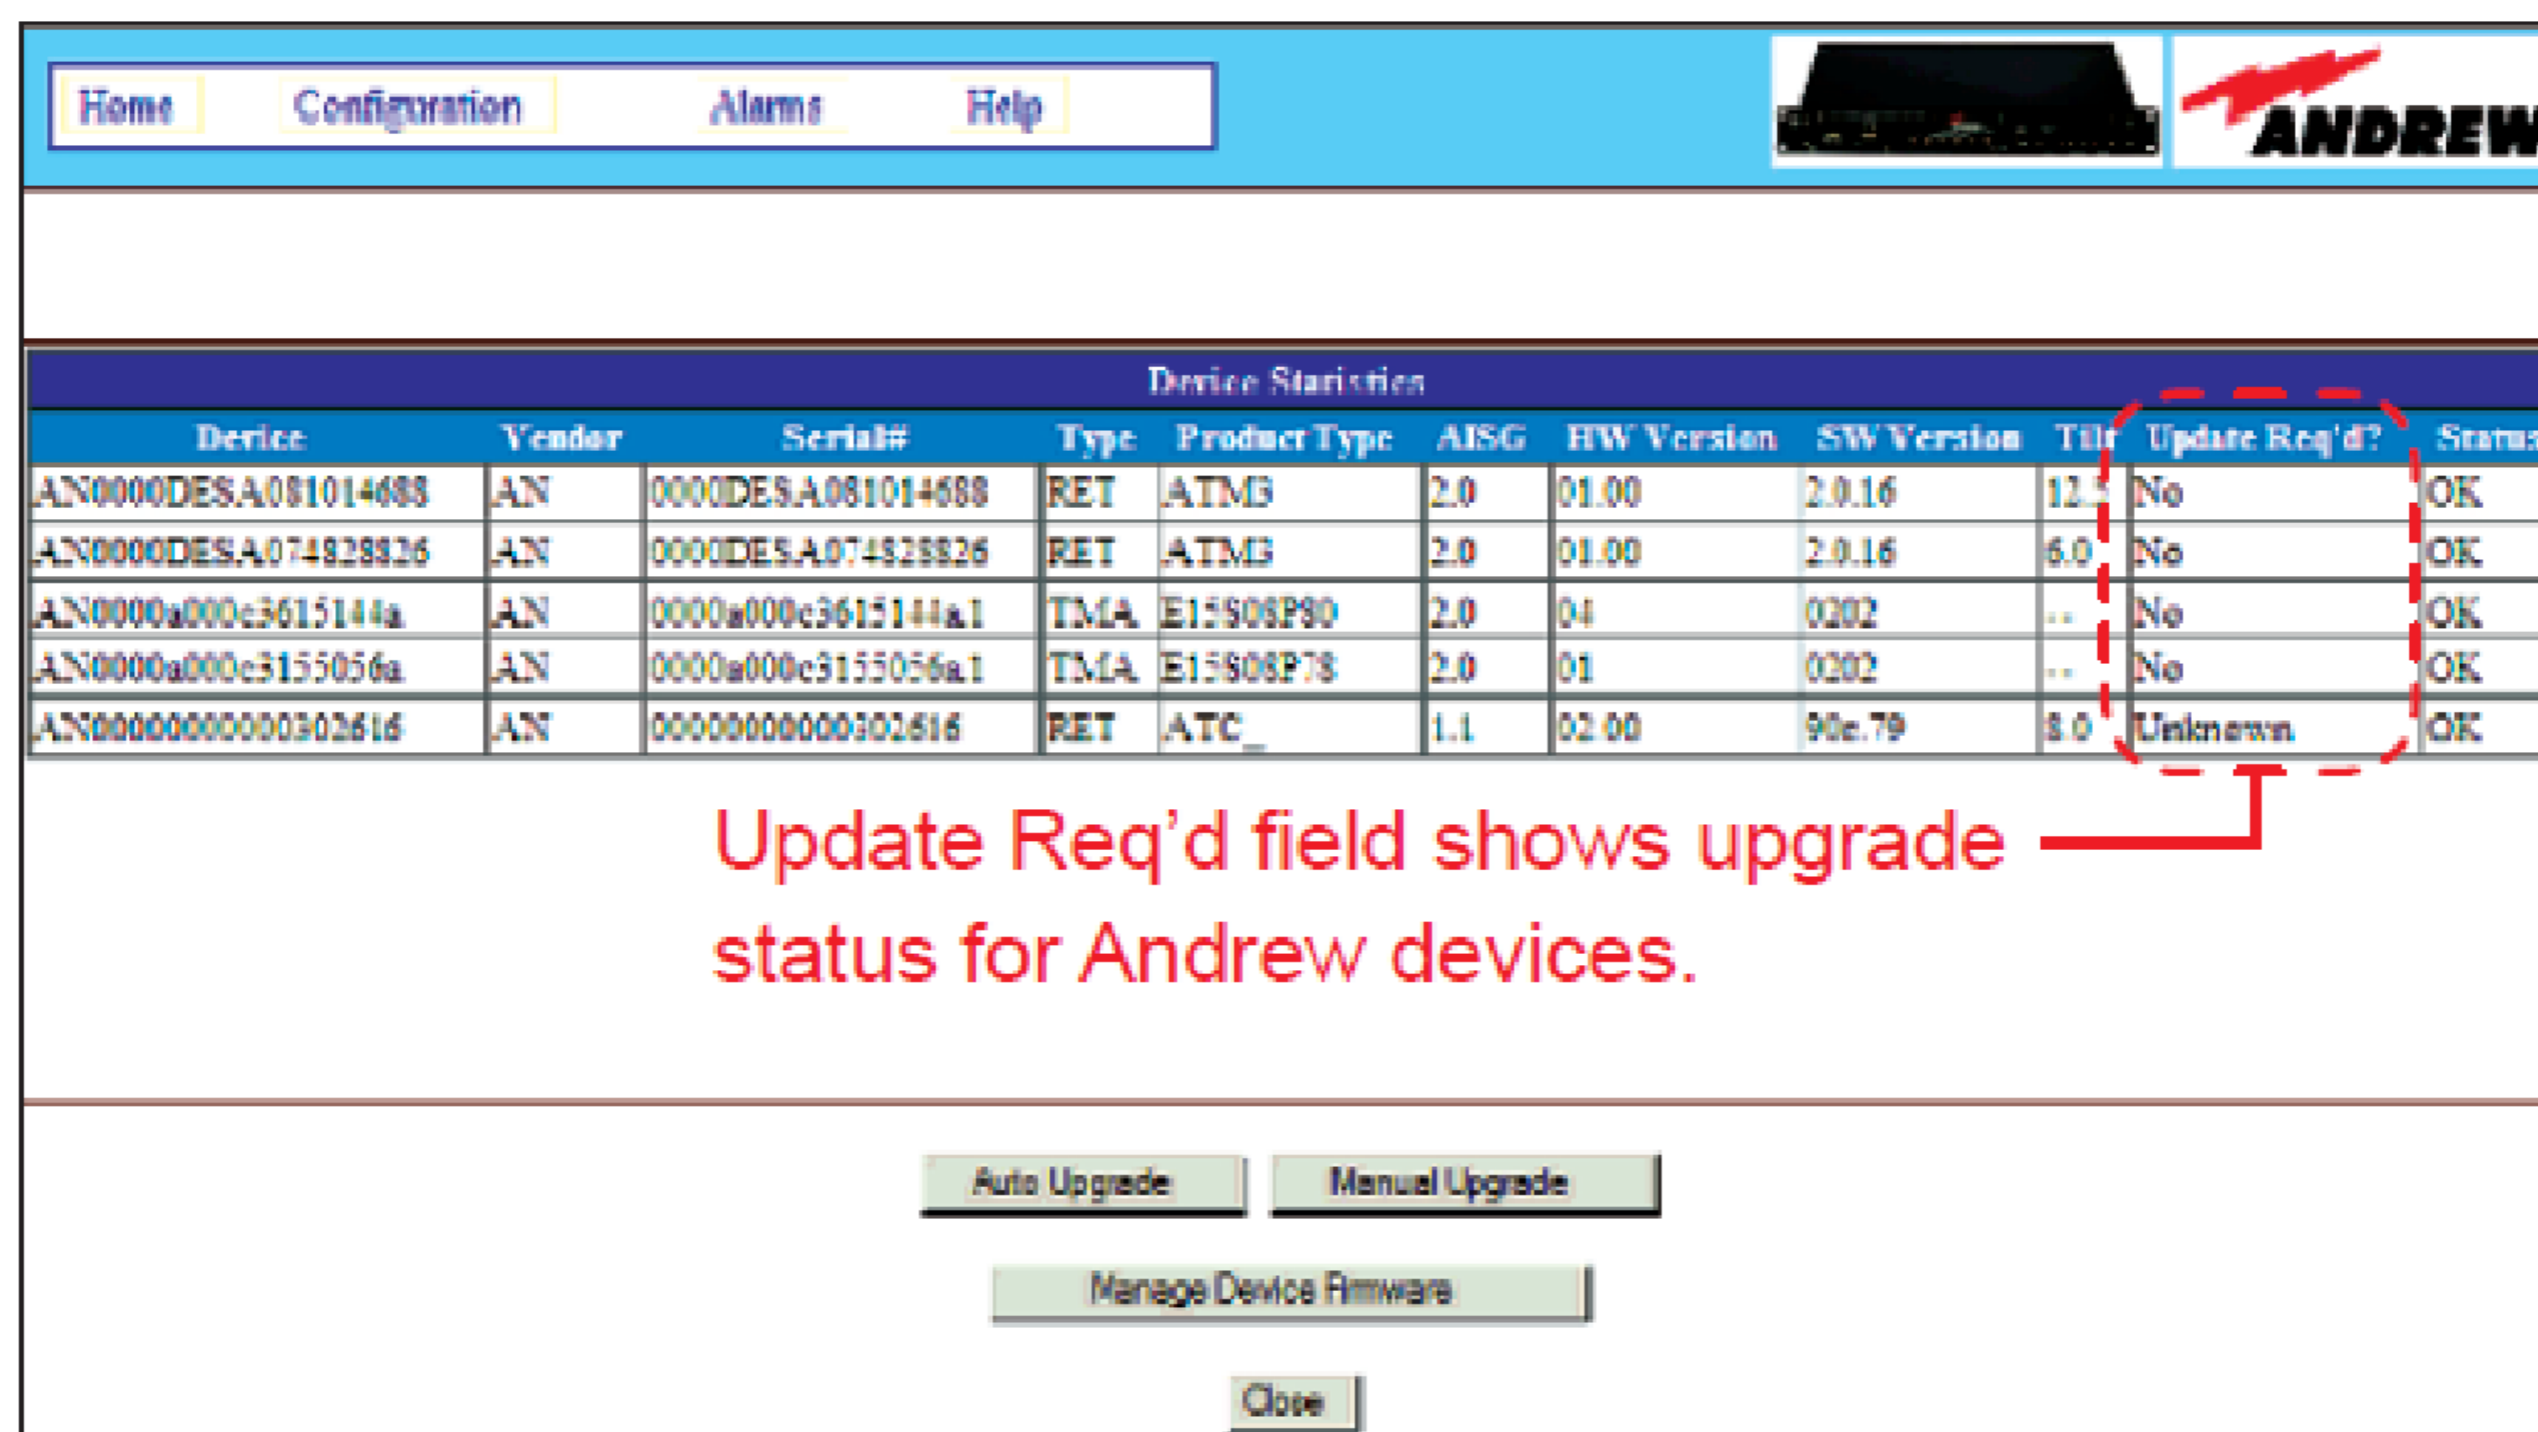

Figure 1. ATC300-1000/2000 Controller **Device Statistics** Screen.
- ATC300-1000/2000 firmware version 2.16 or later provides the user with an improved method for updating CommScope device firmware. The **Device Statistics Screen** (Figure 1) displays the device firmware status in the **Update Req'd** field shown in one of three states: